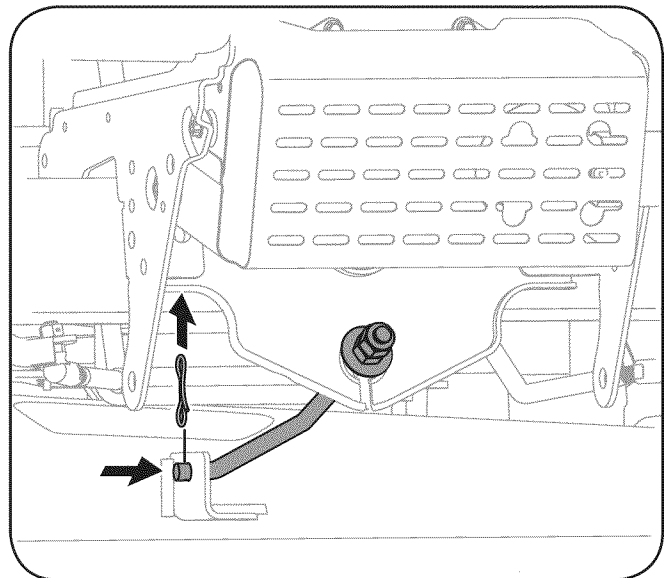

Figure 7-3
8. **On 42" decks:** Remove the bow-tie cotter pin securing the deck stabilizer rod to the deck. Slide the deck lift rod from the mounting weldment on the deck as seen in Fig. 7-3.
On 46" Decks: Remove the bow-tie cotter pin and flat washer securing the deck stabilizer rod to the deck. Slide the deck lift rod from the mounting weldment on the deck as seen in Fig. 7-3.